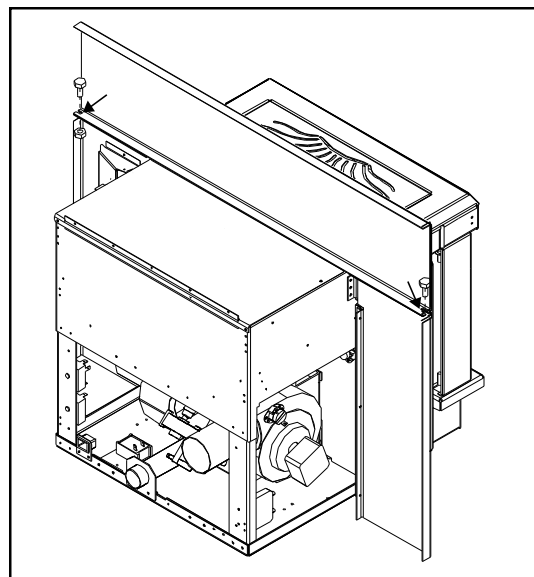

Figure 33: Assembling the Surround Panel, back view.
6. Insert each side panel anchor bolt through the top panel into the corresponding side panel holes and tighten using a  $\frac{7}{16}$ " wench or socket (refer to Figure 33).